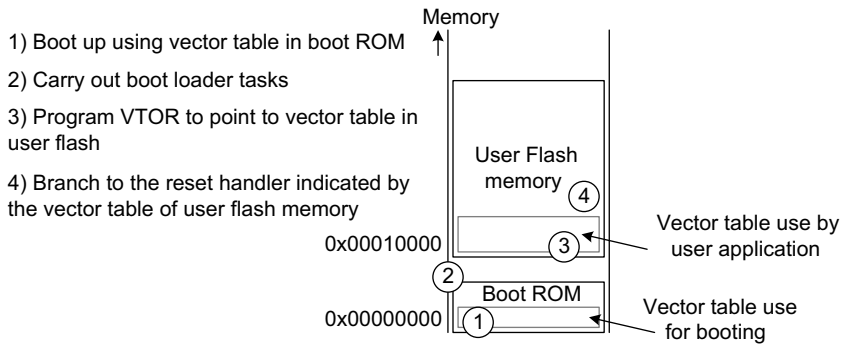

FIGURE 7.12
1. Devices with boot loader (Figure 7.12)